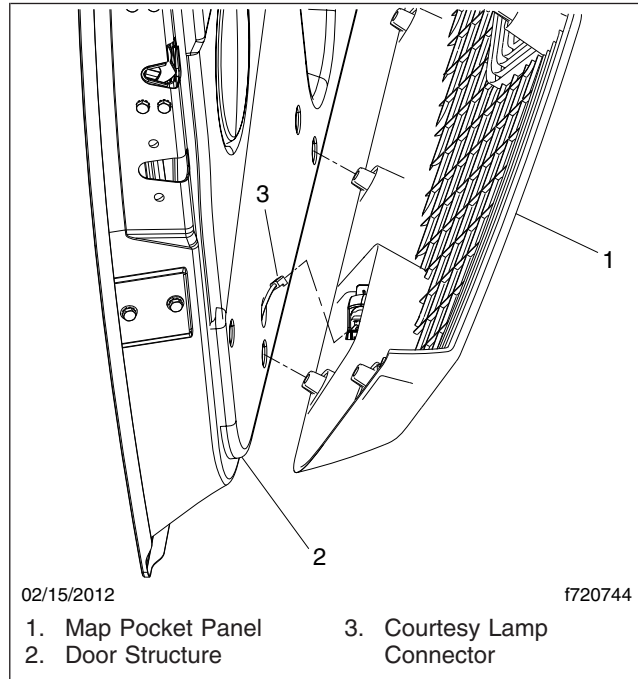

Fig. 2, Courtesy Lamp Wiring Connector
- 7.2 Disconnect the courtesy lamp wiring behind the pocket, then remove the pocket panel. See Fig. 2.